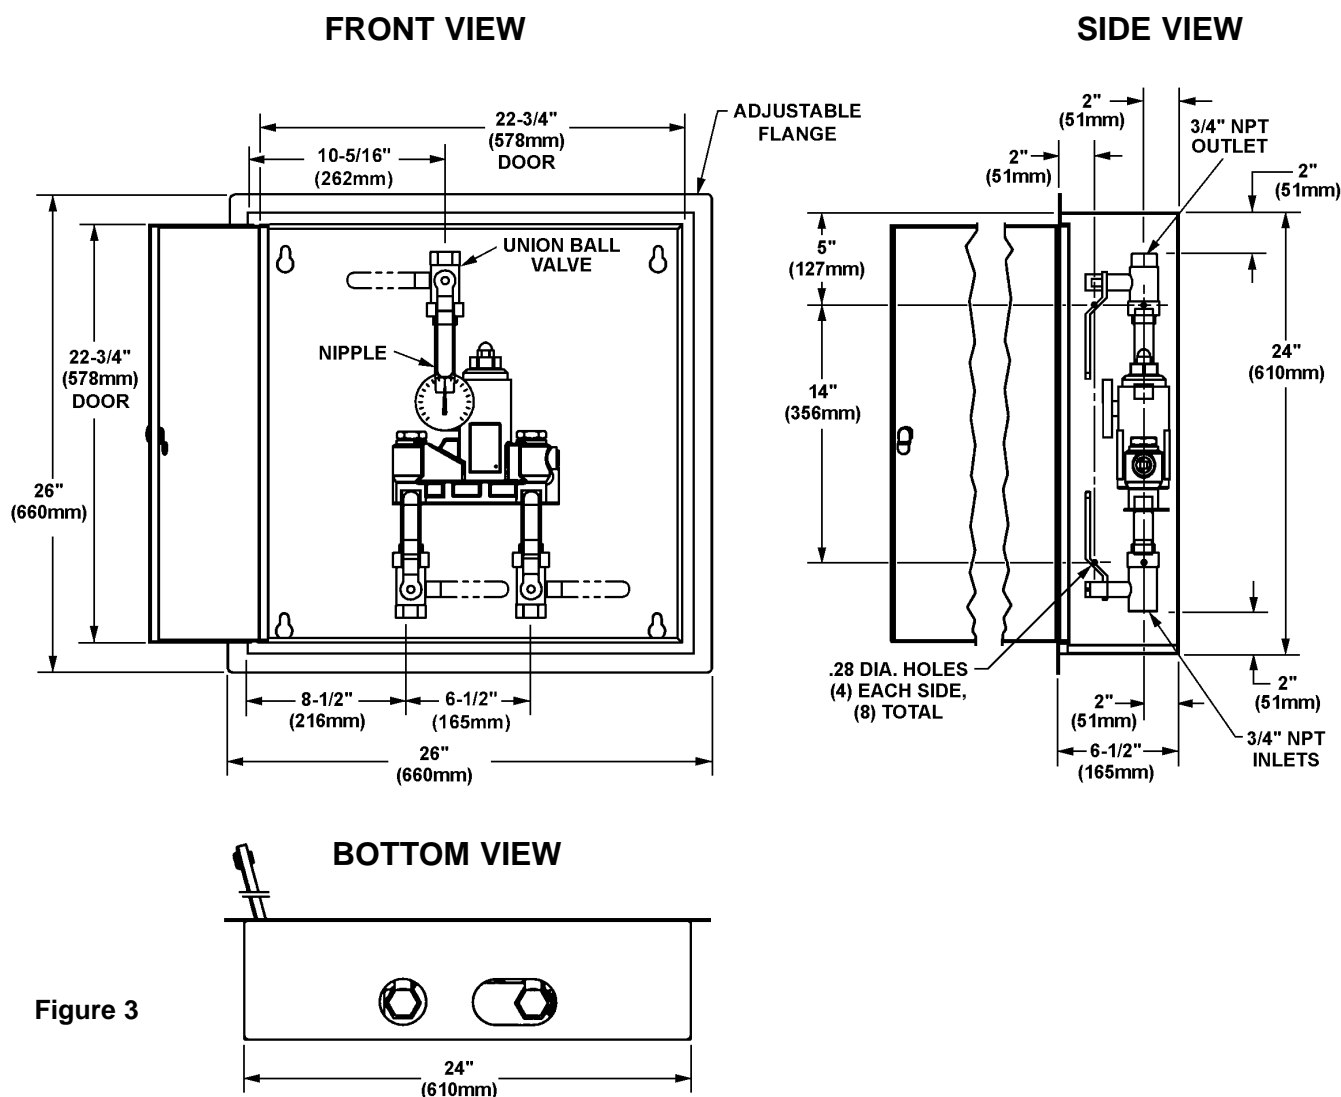

Figure 3
1. Rough in a 26" W x 26" H hole in the wall for the cabinet (see Figure 3).
2. Measure and mark the cabinet mounting hole locations at the dimensions shown in Figure 3. Install four 1/4" wall anchors, if required (anchors supplied by installer).